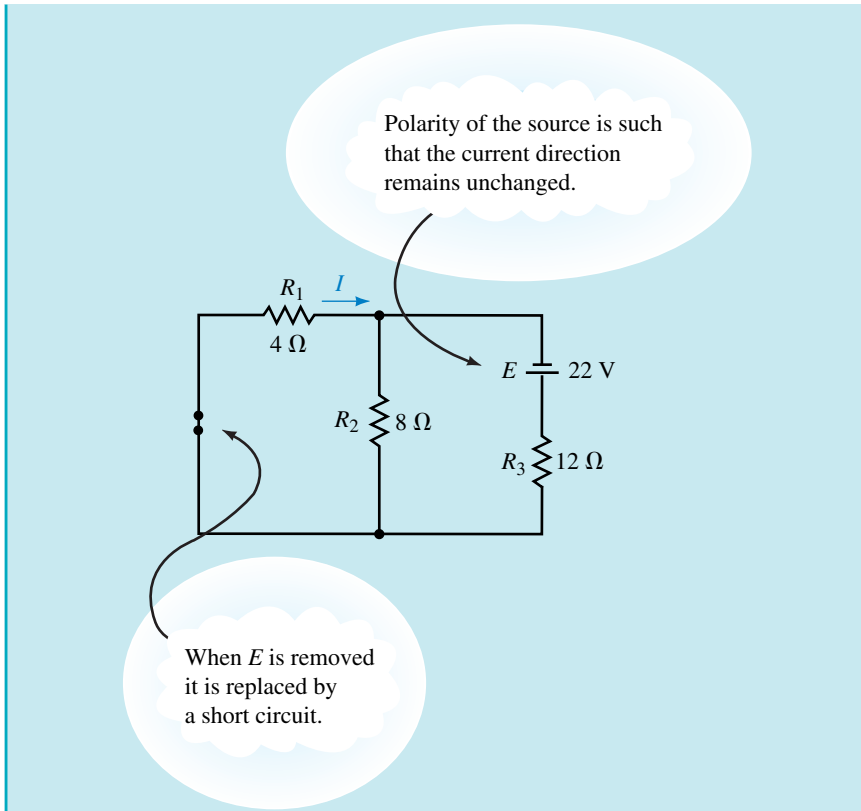

FIGURE 9-63
- Now removing the voltage source from its original location and moving it into the branch containing the current I , we obtain the circuit shown in Figure 9-63.
For the circuit of Figure 9-63, we determine the current I as follows: